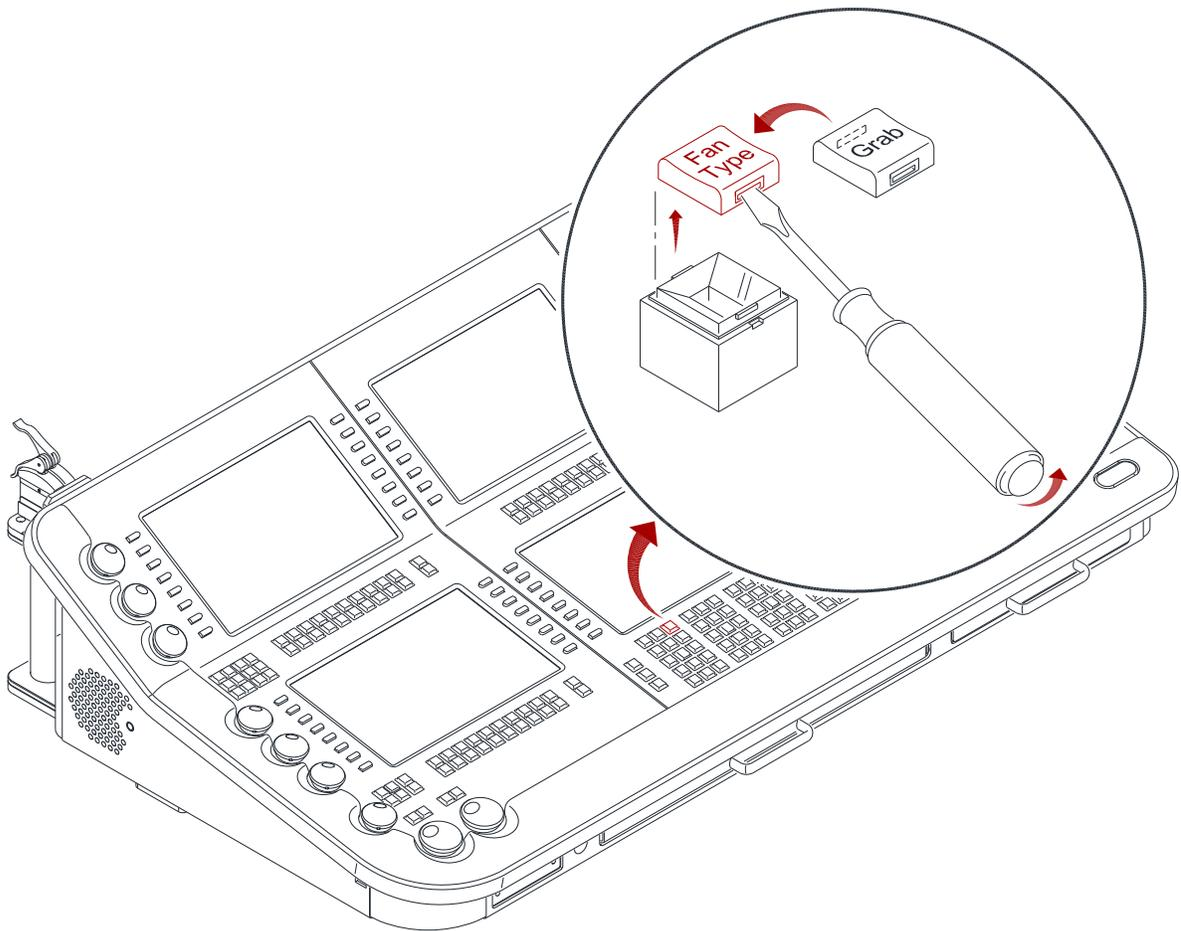

Figure 1: Replacing Key Cap
- Step 1. At console command-line keypad, locate "Fan Type" button (**Figure 1**).